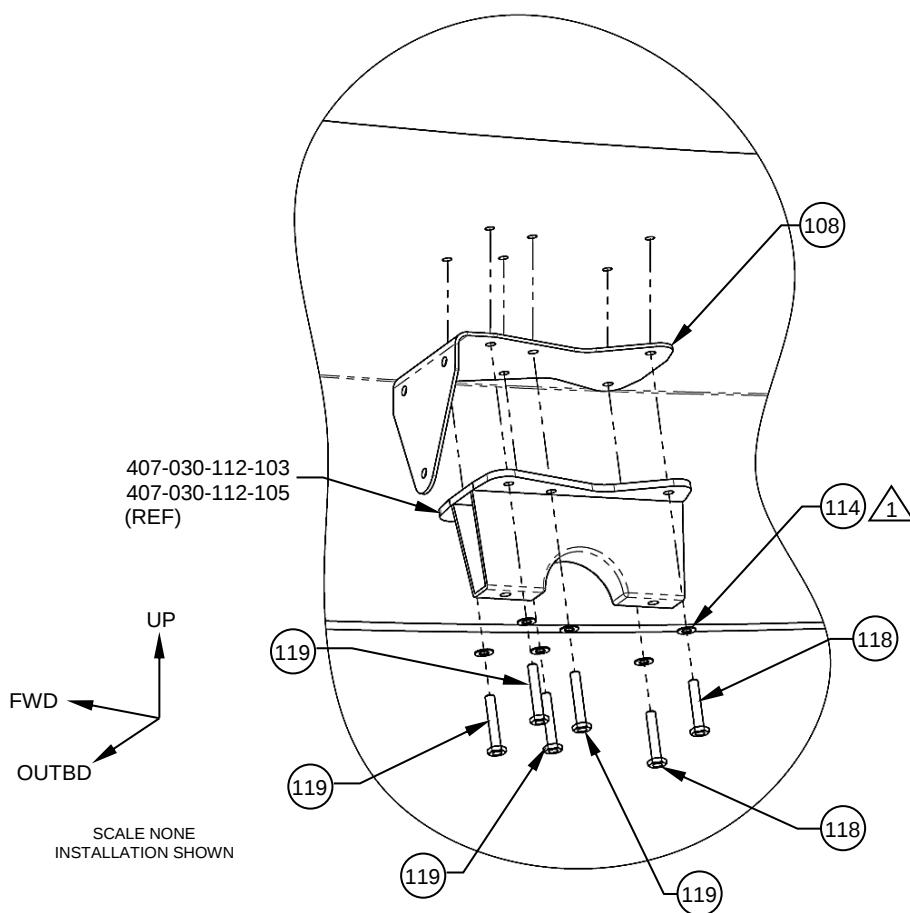

Figure 7
4. To remove 2X AFT Attachment Bracket, (Item 108), remove 4x Bolt, Machine, (Item 118), 8x Bolt, Machine, (Item 119), and 12x Washer, Flat, (Item 114). Reference Figure 7.